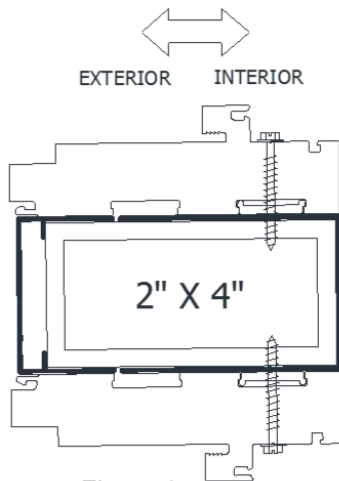

Figure 6
8. Locate the mullion (Item 7 or 8) and mullion clips (Item 9). Secure and install mullion and mullion clips into the opening in compliance with local code requirements AAMA specifications, Miami-Dade NOA, or test reports. See Figures 6 and 7.